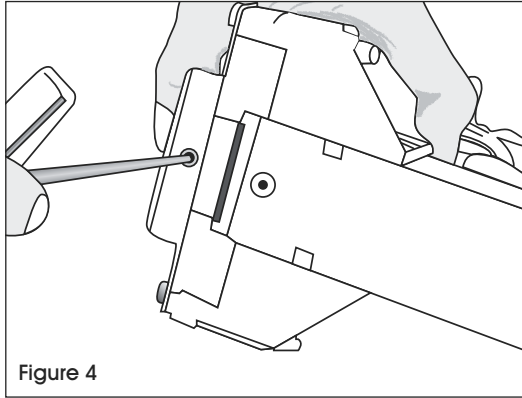

Figure 4
1. Loosen the set screw on the bottom with a 3 mm Allen wrench. (See Figure 4)